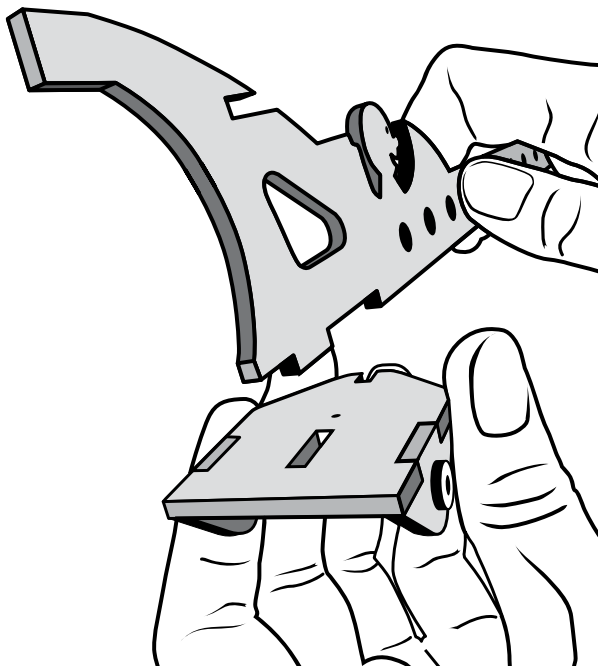

Figure 5
5. Glue the Part 2 and Part 3 pieces – with the Part 4 pieces on them – onto Part 1 as shown (Figures 5 and 6 on following page). Let it dry.